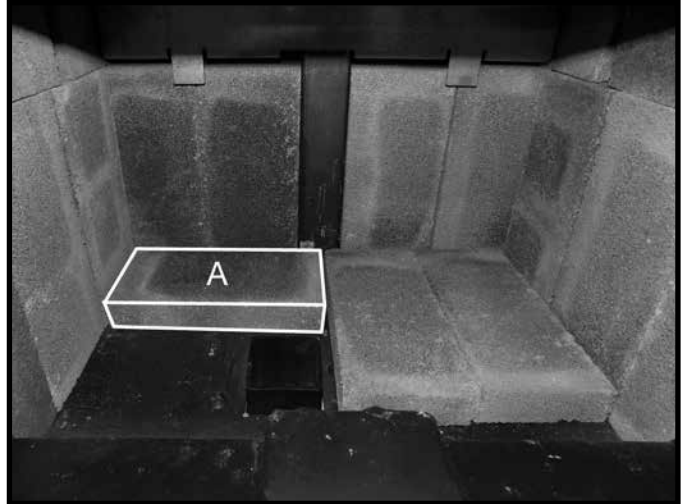

Figure 25. Third floor brick in place.
- Place a third "A" firebrick against the rear wall as shown in Figure 25. on page 16